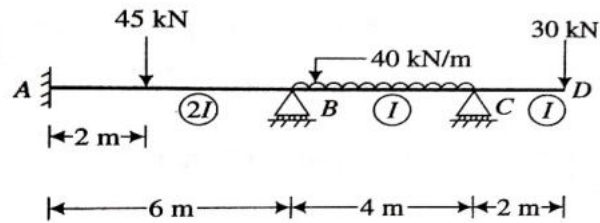

Figure 7.
9. Analyze the beam shown in figure 7, by using stiffness matrix method. [14M]